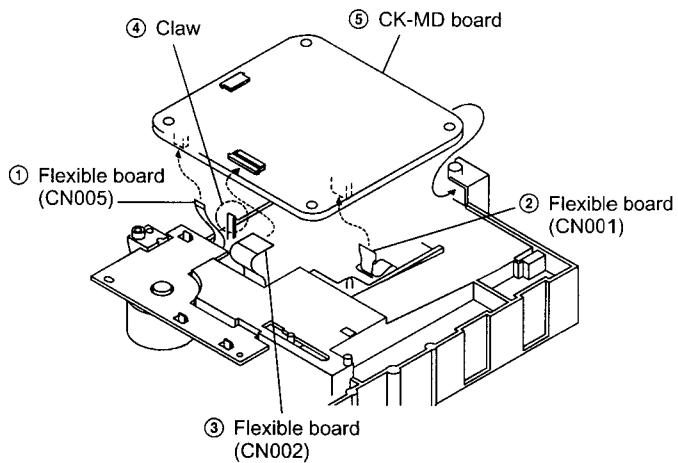

Fig. 2
- 4) Set the CK-MD board as shown in Fig. 2.